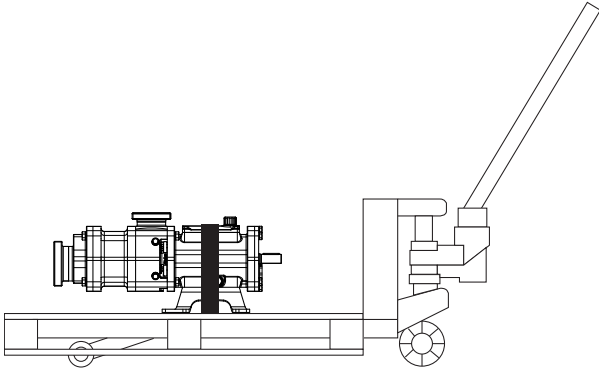

Fig. 17 Transport using lift truck
- Check whether the pump is adequately secured on the pallet. For instance using straps Fig. 17 “Transport using lift truck”, Page 24.